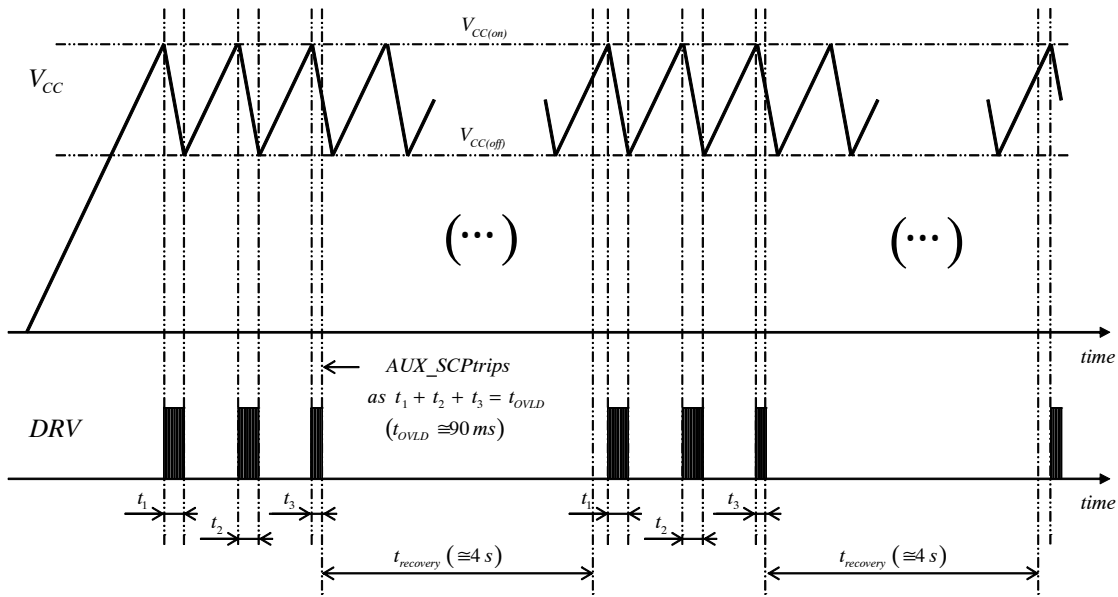

Figure 60. Start-up Sequence in a Load Short-circuit Situation (auto-recovery versions)
- If the load is shorted, the circuit will operate in hiccup mode with  $V_{\text{CC}}$  oscillating between  $V_{\text{CC(off)}}$  and  $V_{\text{CC(on)}}$  until the AUX\_SCP protection trips (AUX\_SCP is triggered if the ZCD pin voltage does not exceed 1 V within a 90-ms operation period of time thus indicating a short to ground of the ZCD pin or an excessive load preventing the output voltage from rising). The NCL30086A and NCL3006C latch off in this case. With the B and D versions, the AUX\_SCP protection forces the 4-s auto-recovery delay to reduce the operation duty-ratio. Figure 60 illustrates a start-up sequence with the output shorted to ground, in this second case.